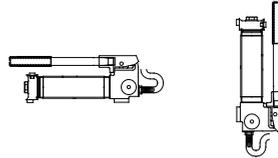

Figure 4 - Horizontal and Vertical Position
- Loosen vent screw counter-clockwise (Fig. 4).